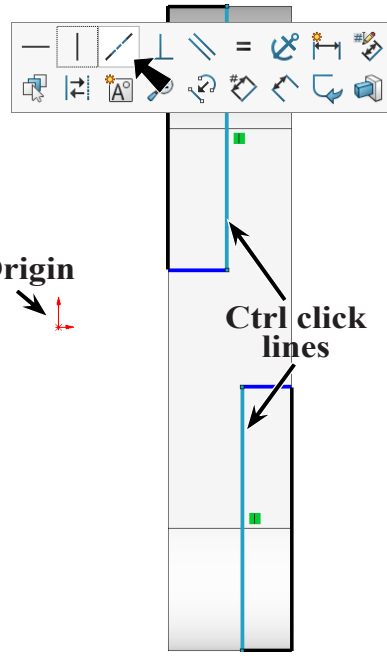

Fig. 12
Step 6. **Ctrl click both vertical lines in center** to select both. Release Ctrl key and click **Make Collinear**  on the context toolbar, **Fig. 12**.